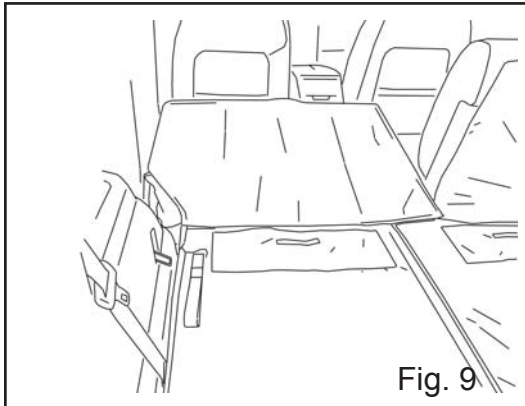

Fig. 9
- 7 If 3rd row seats are to be folded down, extend cover and align with 2nd row seats. (Fig. 9)